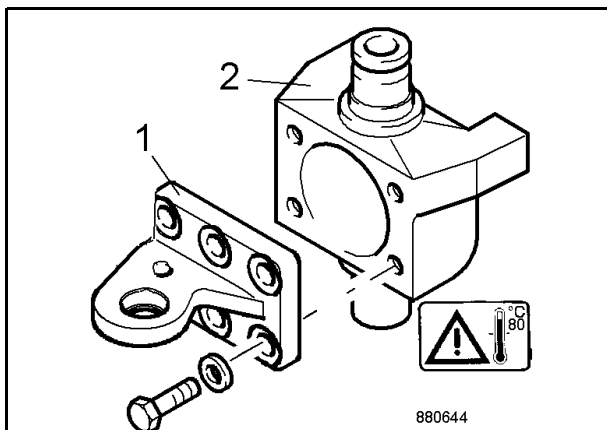

Fig. 11
- Heat the cross member 2 (Fig. 11) up to approx. 80 °C.